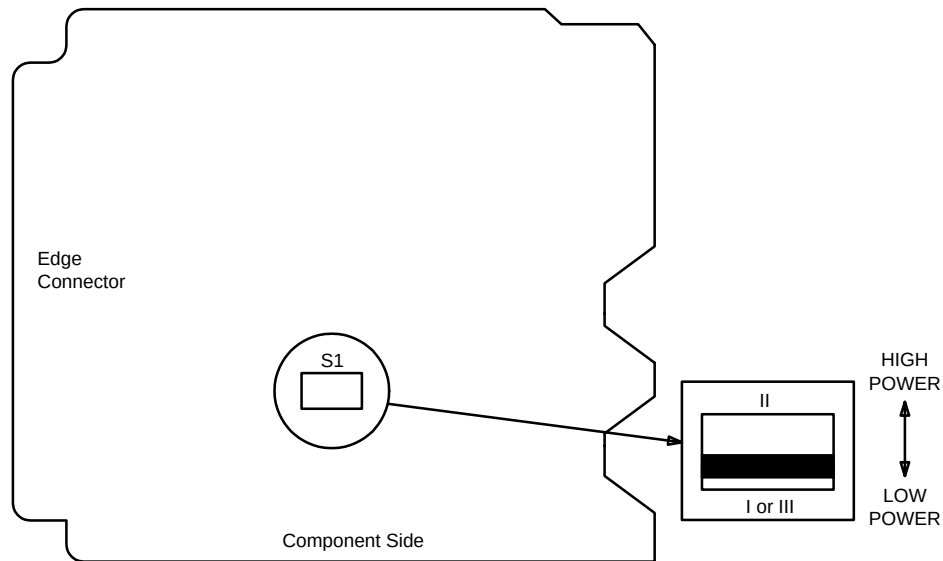

Figure 1 – OLIU Option Settings
2. Refer to Figure 1 and set the option switch on the **21G/21G-U OLIU** to the **LOW POWER** position, if not already performed.